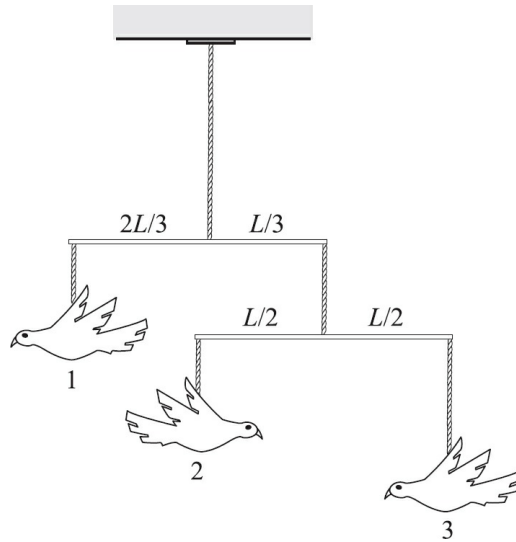

Fig. 5-17
5.26 [II] The mobile depicted in Fig. 5-17 hangs in equilibrium. It consists of objects held by vertical strings. Object-3 weighs 1.40 N, while each of the identical uniform horizontal bars weighs 0.50 N. Find (a) the weights of objects-1 and -2, and (b) the tension in the upper string.